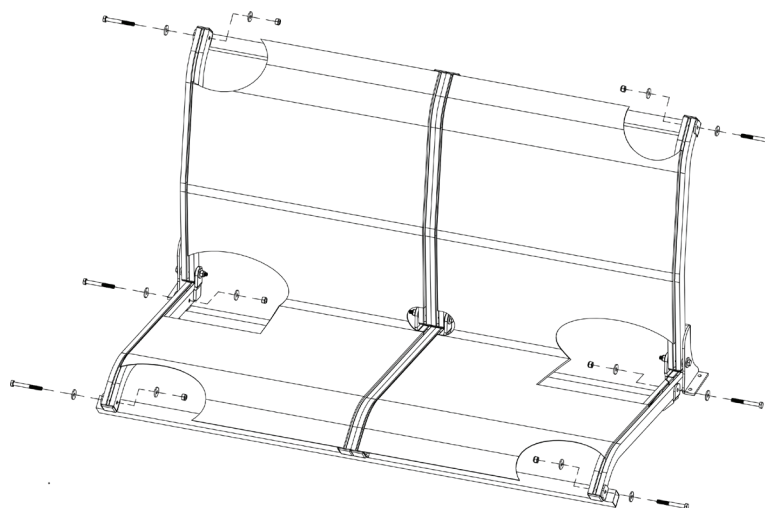

Figure 28
STEP 13: Now you can attach all six (6) of the outer seat frames to the spreader bars using six (6) $\frac{1}{4}$ " x 2- $\frac{1}{4}$ " bolts, two (2) washers and one (1) nut on as shown in Figure 28. Install the nuts finger tight at this time.